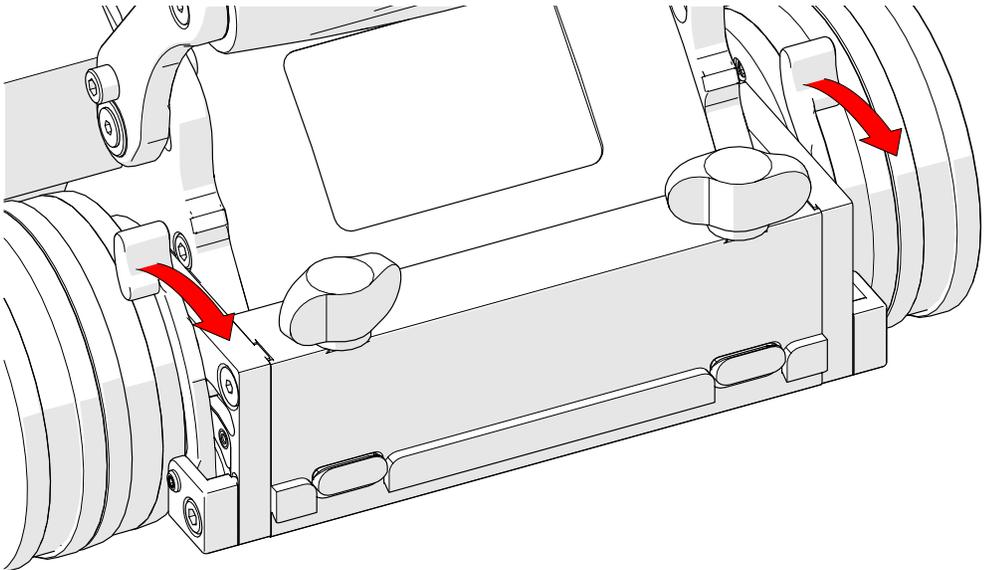

Fig. 213 - Front swivel adjustment levers
1. Once crawler preparation is complete (see “System components” on page 20) and system startup has been performed (see “System Startup” on page 92), raise the front swivel mounts to ensure they will not hinder the wheels from contacting the inspection surface (see “Crawler” on page 48). Release the front swivel adjustment levers (Fig. 213), located at the front of the crawler, to position the front swivel mount.